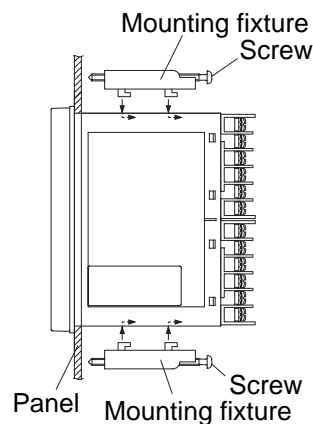

Fig. 2
- ② Tighten screws on the fixtures so that no gaps are given between the front of controller and packing and between panels as shown in Fig.2. Check that there are no deviation and deformation of packing as shown in Fig.3.